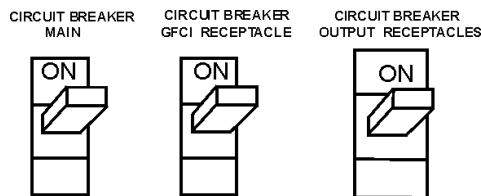

Figure 54. Main and GFCI Circuit Breakers
19. If there are no abnormal problems shown on the "MPEC" LED display, turn the MAIN, GFCI and LOAD circuit breakers to their ON position (Figure 54).